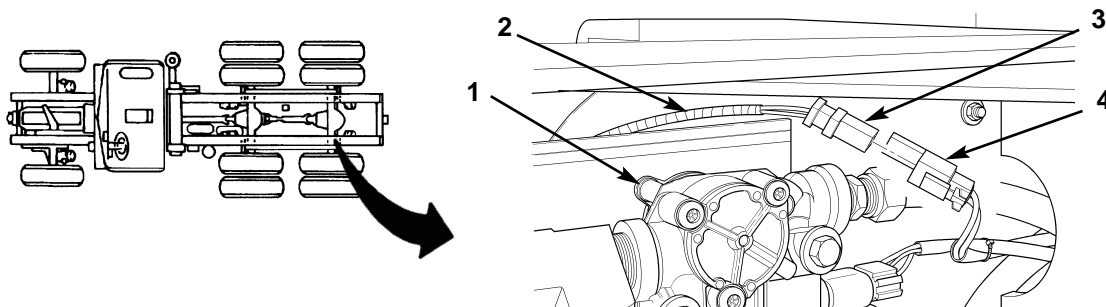

Figure 3. Disconnecting Wheel Sensor Cable at Rear Modulator.
1. Disconnect wheel sensor cable (figure 3, item 3) from rear wheel sensor harness (figure 3, item 4) located inside frame rail adjacent to rear modulator (figure 3, item 1). Remove tie straps from wheel sensor cable (figure 3, item 2) and remove tape and split loom (figure 3, item 3) from wheel sensor cable (figure 3, item 3). Discard tie straps and tape.